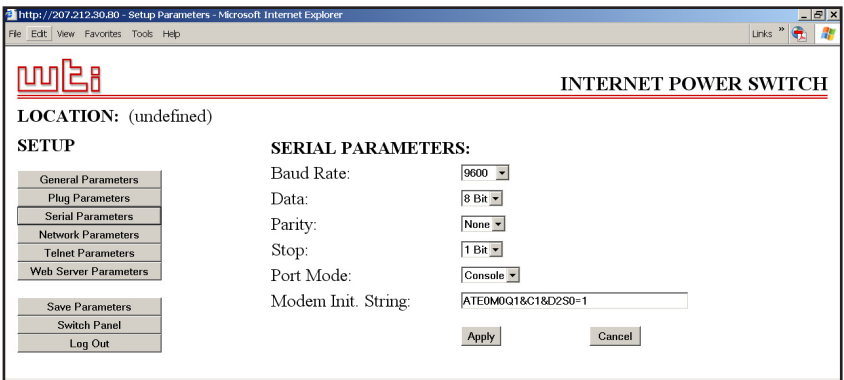
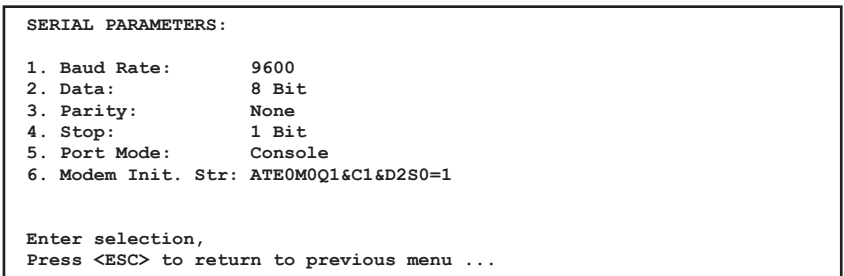

Figure 5.5: Serial Parameters Menu - Web Browser Interface
Figure 5.6: Serial Parameters Menu - Text Interface
- **Web Browser Interface:** Click the "Setup" button to access the Setup Menus, and then click the "Serial Parameters" button. The Serial Parameters Menu will be displayed as shown in Figure 5.5.
- **Text Interface:** Type `/C` and press **[Enter]**. The Serial Parameters Menu will be displayed as shown in Figure 5.6.
As shown in Figure 5.5 and Figure 5.6, the Serial Parameters Menus offer the following options: